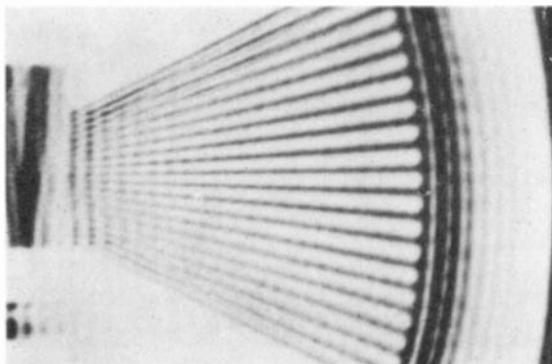

FIGURE 23-24 MULTIPLE OUTLINES CAUSED BY RINGING. (RCA)
**Oscillations in the IF amplifier.** Regeneration can make the IF amplifier oscillate, especially when there is an excessive peak in the IF response at one frequency. The effect in the picture is usually multiple outlines, with black streaks caused by radiation of IF signal back to the rf tuner. See Fig. 23-24.